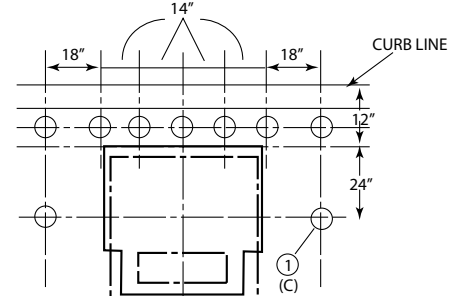

Figure 3
- Position guard pipes and assemblies so that a vehicle will not come in contact with the equipment. See Figure 1 for preferred installation. Figure 3 shows an alternate arrangement where space is limited.
- Maintain 36\" of clearance in front of equipment doors and 24\" of clearance around all sides. All dimensions are minimums and are not to be reduced. This does not apply where the curb line is within 24\" of equipment. Figure 3 provides an exception but should only be used when necessary.